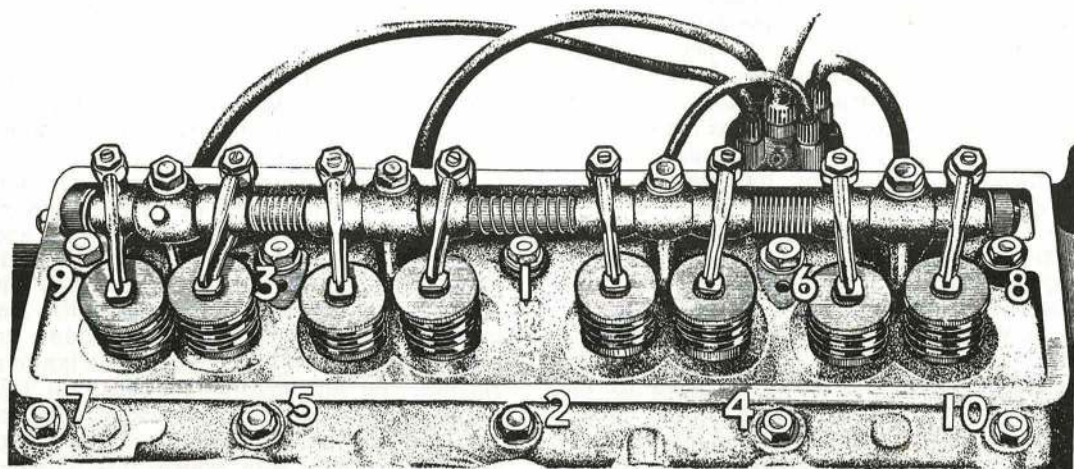

Fig. 1. TIGHTENING CYLINDER HEAD NUTS
5. The usual precautions must be observed to prevent damage to any parts, and extra care is required when removing a cylinder head. Cylinder head nuts must be gradually slackened, working in the reverse order to the tightening sequence; a diagram of the tightening sequence is included in the relevant Air Publication, a typical example being shown in Fig. 1. Each nut or set screw is given only a partial turn at a time, returning to the first nut and repeating the gradual slackening off several times until